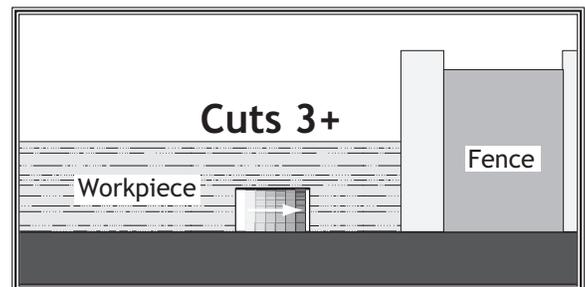

Figure 54. Additional single blade dado cuts.
8. Make additional cuts (see Figure 54) in the center of the dado to clear out the necessary material. The dado is complete when the channel is completely cleared out.